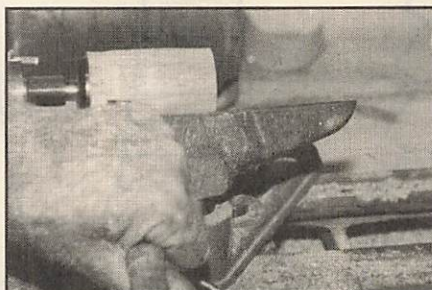

Fig. 10. Turning the Bell to rough outer shape.
Step 2. Turn the piece to rough outer shape, leaving enough stock to support the Bell during hollowing-out (see Fig. 10).